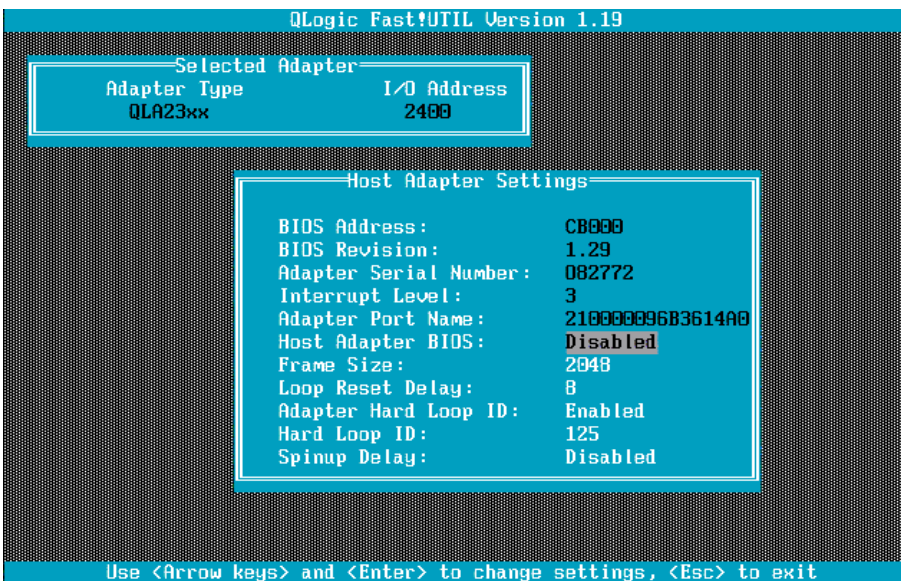

Figure 95. Fast!UTIL Host Adapter Settings
- The Host Adapter Settings screen, shown in Figure 95, is displayed. The 16-digit hexadecimal number labeled Adapter Port Name is the Host Port Identifier in Storage Manager. Obtain this number for each BladeCenter HS20 that will access the logical drives on the FASTT.